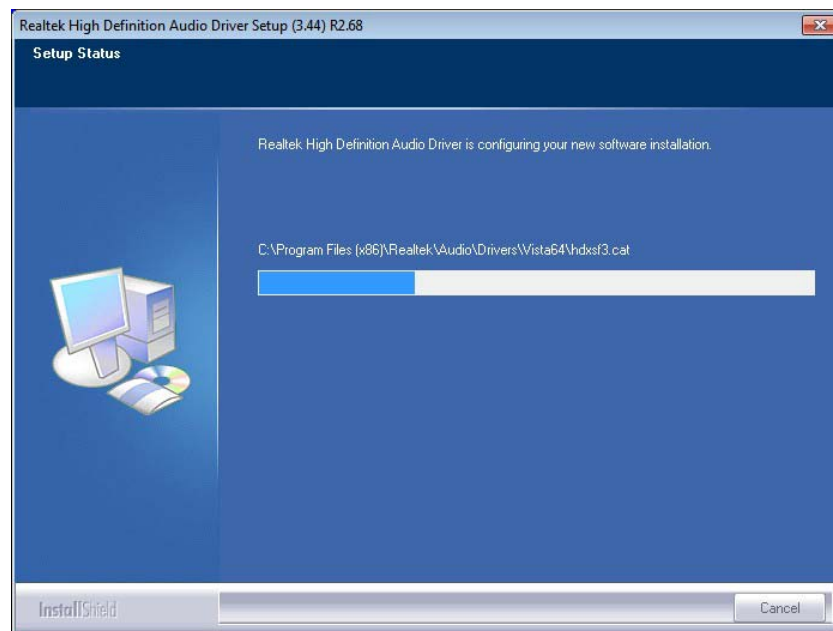

Figure 6-20: Audio Driver Software Configuration
- Step 7:** InstallShield starts to install the new software as shown in **Figure 6-20**.